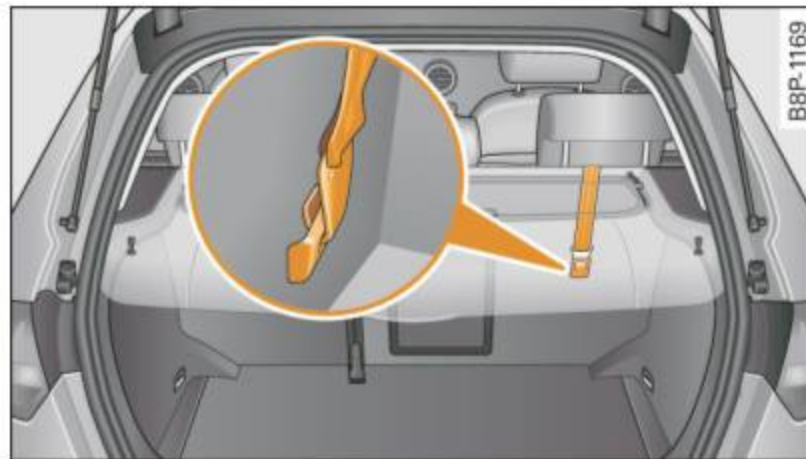

Fig. 154 Tether strap: proper routing and mounting
- Guide the upper tether strap **under** the rear head restraint and into the rear cargo area ⇒ fig. 154 (raise the head restraint if necessary).